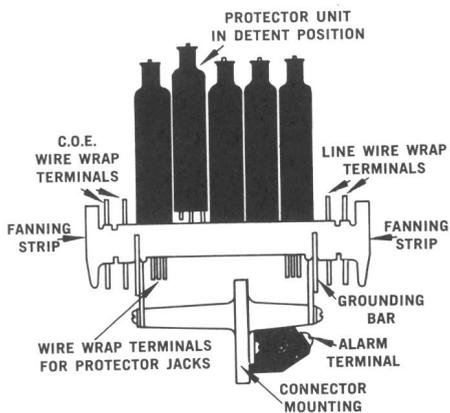

FIGURE 5.
- 2.11 When the protector unit is pulled out to the detent position (Figure 5), the central office equipment is disconnected to isolate outside pairs for testing purposes or service denial. In this position, protection is still provided on the outside cable pair.